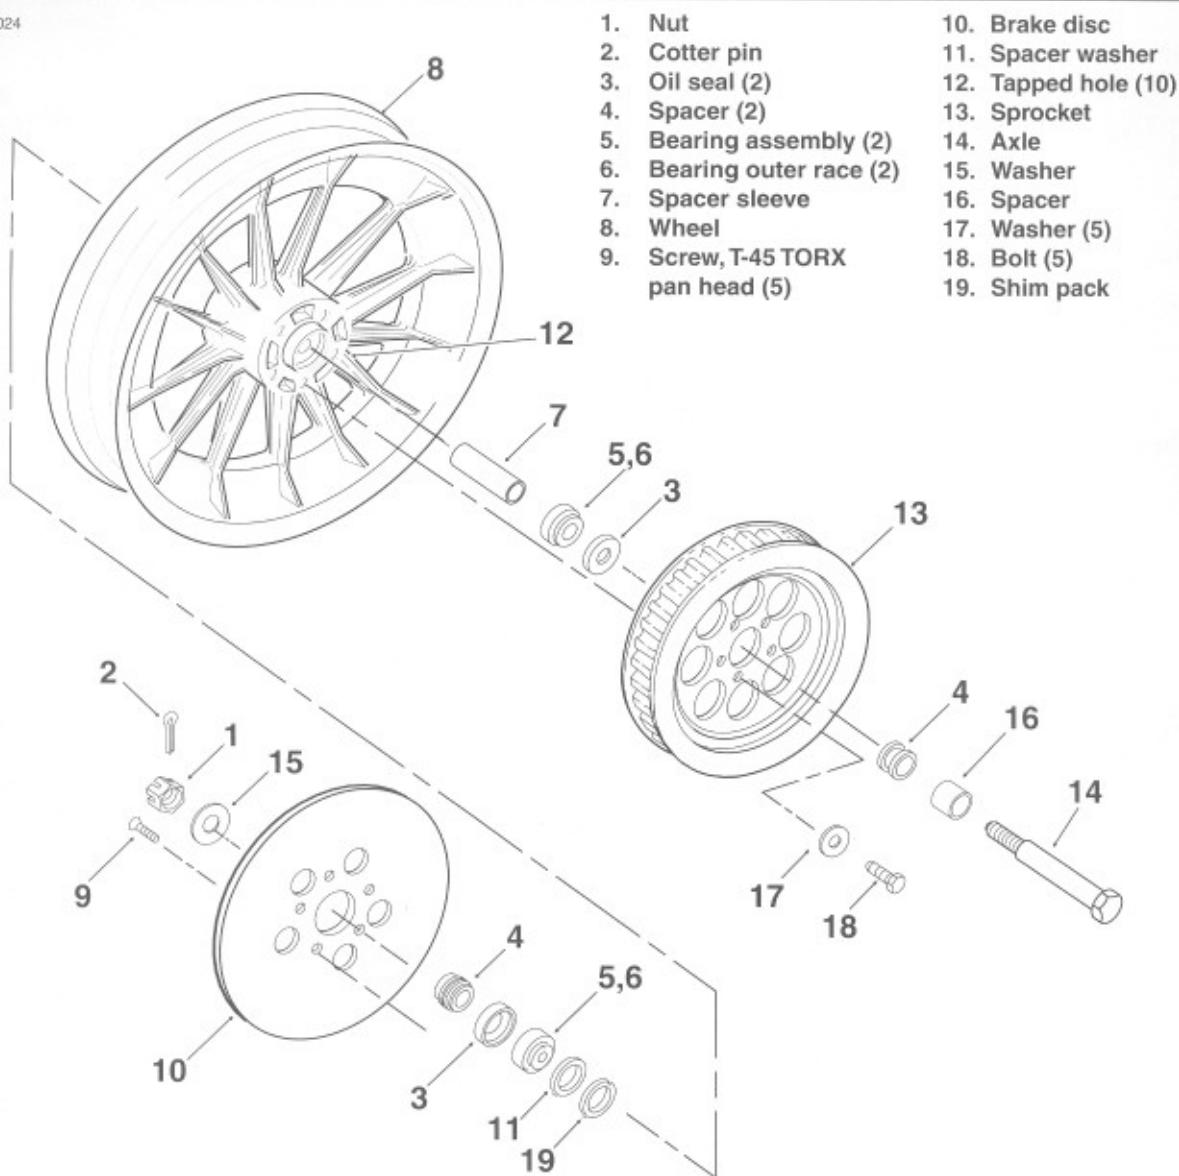

Figure 2-9. Cast Rear Wheel
5. Remove spacer (16, Figure 2-9; 18, Figure 2-10) and rear wheel assembly.
Cast Wheel (Figure 2-9)
ASSEMBLY**Cast Wheel (Figure 2-9)**
2. Apply LOCTITE ANTI-SEIZE LUBRICANT to axle (14, Figure 2-9; 16, Figure 2-10). Insert axle through right side of rear fork, spacer (16, Figure 2-9; 18, Figure 2-10), wheel assembly, rear caliper bracket and left side of rear fork.
4. See Figure 2-9 and Figure 2-10. Mount a magnetic base dial indicator on the brake disc. Set the indicator contact point on the end of the axle. Move the wheel back as far as it will go. Holding the wheel in position, zero the dial indicator gauge. Move the wheel forward as far as it will go. Note the reading of the dial indicator. The lateral movement or end play must fall between 0.002 and 0.006 in. (0.05-0.15 mm). Repeat the procedure to verify the reading.
5. Remove the wheel and substitute thicker spacer shim(s) (19, Figure 2-9; 8, Figure 2-10) if the end play must be increased. Use thinner spacer shim(s) to reduce the end play. See the following table for the available spacer shim thicknesses.